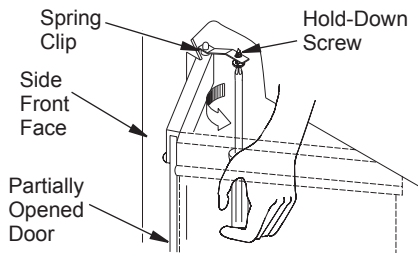

Figure 34 - Adjusting Glass Doors
7. To adjust doors, slide them partially open. Using a screwdriver, loosen hold-down screws in the spring clip (see Figure 34) and pivot plate.